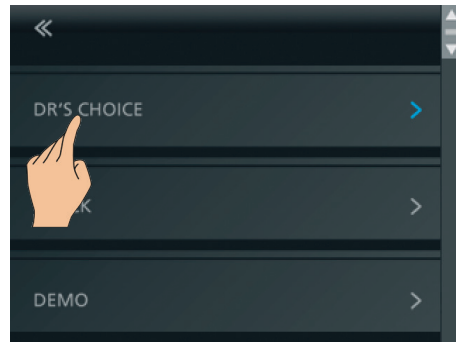

Fig. 22 Select DR'S CHOICE
- Enter the Settings Menu and select DR'S CHOICE (Fig. 22).